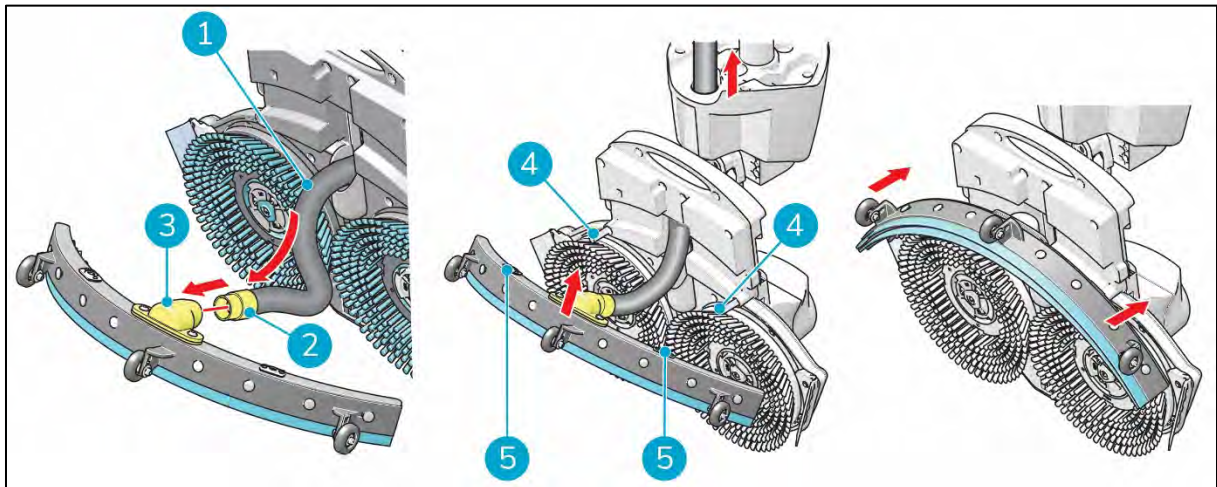

Figure 10
1. Take the vacuum hose (Figure 10, pos. 1).
2. Insert the hose connector (Figure 10, pos. 2) in the squeegee (Figure 10, pos. 3).
3. Twist the hose connector $\frac{1}{4}$ turn for a firm fit (Figure 10, pos. 2).
6. Align the pins on the scrub deck (Figure 10, pos. 4) with the holes on the squeegee (Figure 10, pos. 5).